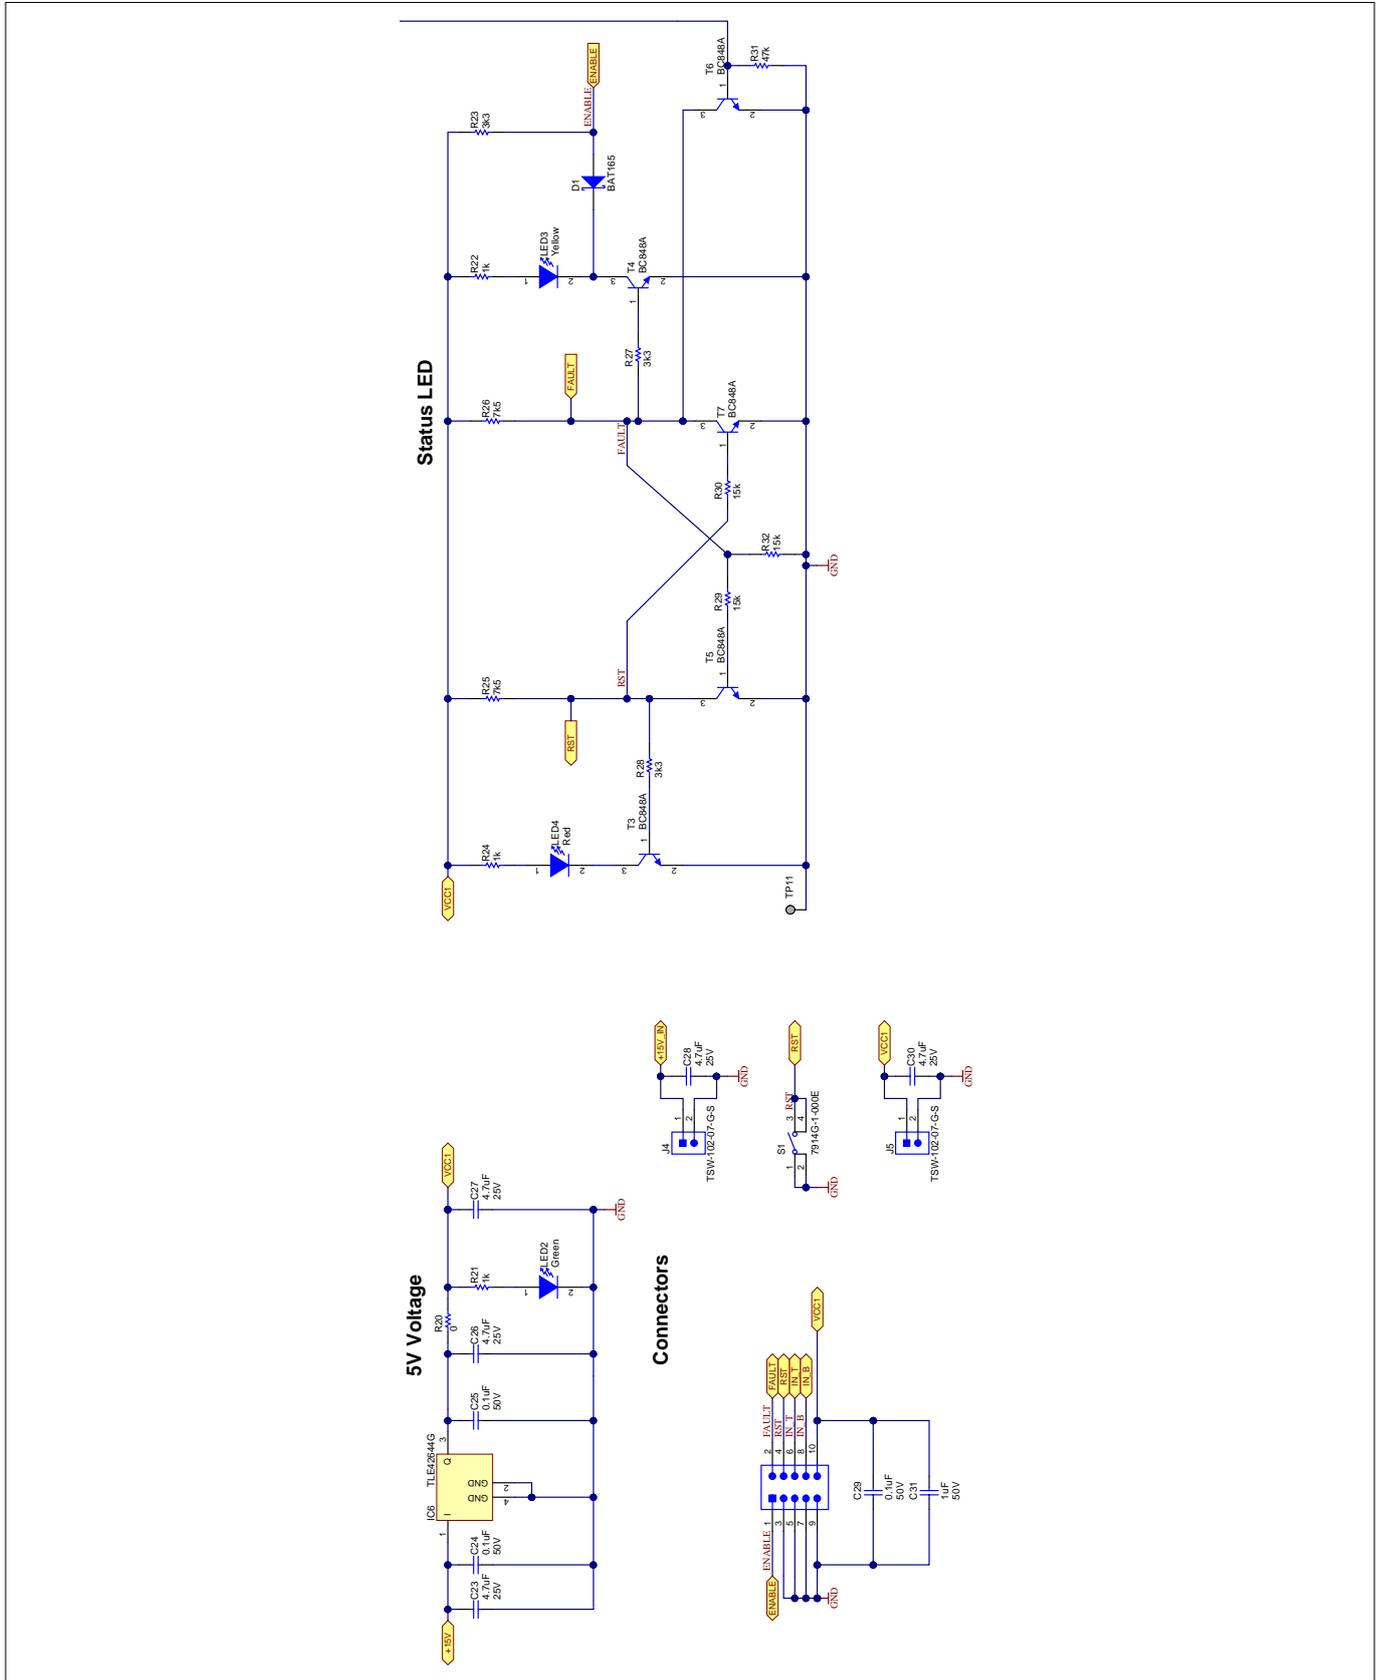

Figure 6 The interface schematic with failure flip-flop
- Interface schematic, see Figure 6, interface to a digital driver or a microcontroller with on board 5 V voltage regulator and the error flip-flop to store an over current event.
The interface schematic, in Figure 6, contains in the upper left corner the 5 V regulator IC6 to generate the VCC1 for the low voltage domain.